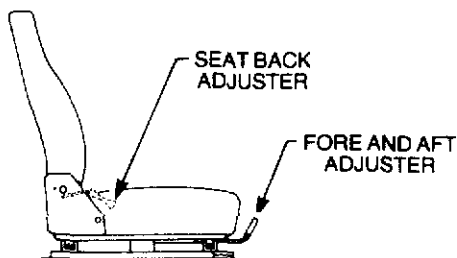

Figure 1-15 Seat adjustment
Cabin seating (Fig. 1-15)
86. The cabin seating is adjustable as illustrated in Fig. 1-15. The passenger's seat cushion must be removed to gain access to the battery.